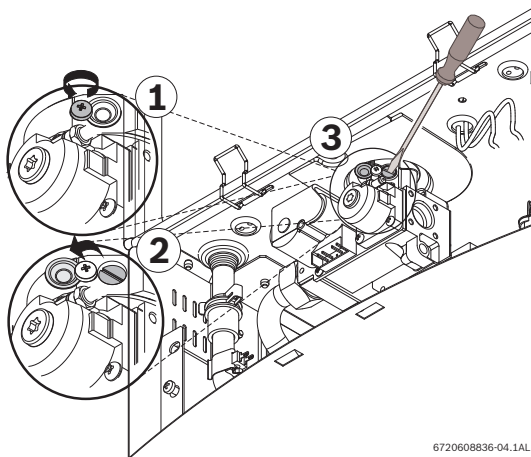

Fig. 62 Adjusting P1 CO2 level
- ▶ Loosen yellow painted philips screw (1) and cover should rotate down (2) revealing a recessed brass slotted screw. Fig. 62.